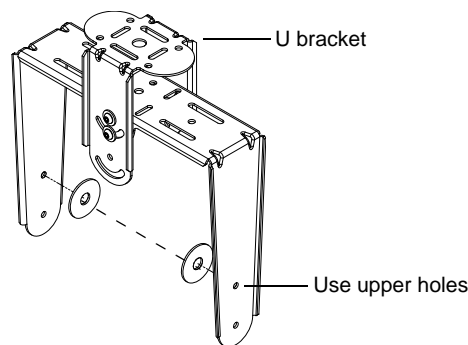

Figure 2-13 Attachment Points for Improved Sight Lines to Minimize Projector Light-Beam Blockage
- In cases where minimal vertical or horizontal angle adjustment is needed, use the holes on the yoke and U-bracket shown in Figure 2-13 to avoid blocking the image projected to the screen.